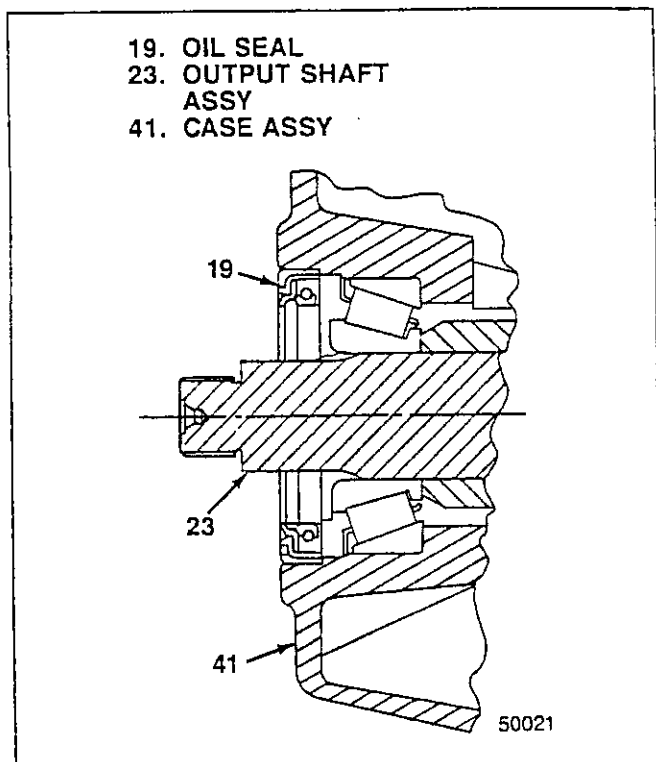

Figure 5-17. Output Shaft Oil Seal
7. Position oil seal (19) as shown in figure 5-17 and press in to bottom in case assembly (41).
8. Install output flange (18). Apply Loctite 598 (black) to face of washer portion of lock nut (17) and install lock nut. Holding output flange with coupling wrench T-5005, torque nut to 250 lb-ft (339 Nm).